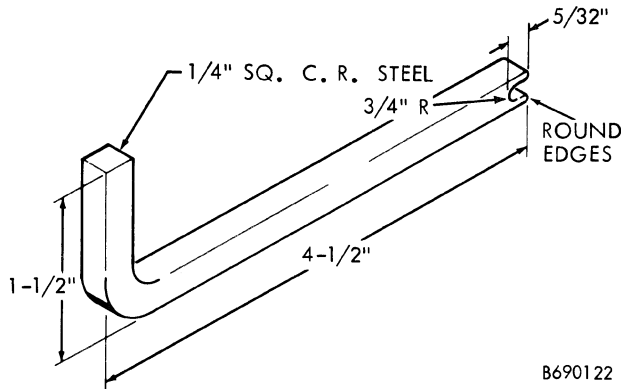

Figure 8. Spring Installation Tool
- a. The tool shown in Figure 8 is used to install the springs. It can be shop made or ordered from the Char Lynn Co., 15151 Highway 5, Eden Prairie, Minnesota 55345, part number 600057.